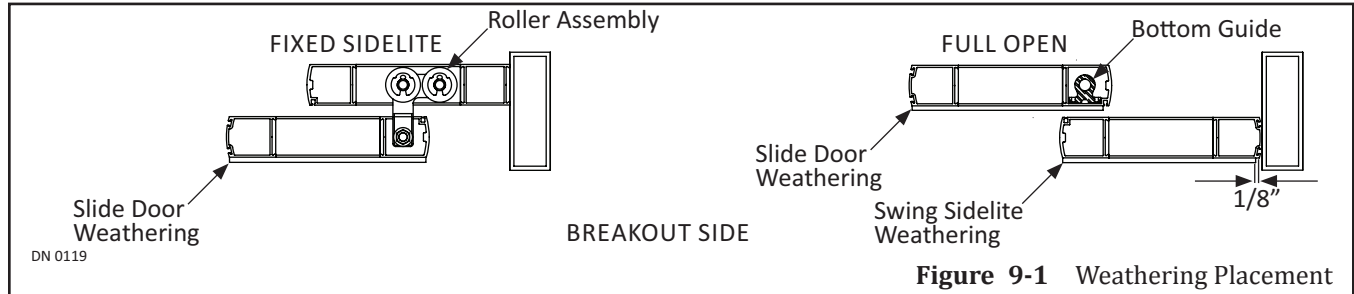

Figure 9-1 Weathering Placement
- a. It is recommended to leave at least a 1/8 inch gap between the Edge of the Pivot Stile and the Brush Holder. Please see Figure 9-1.